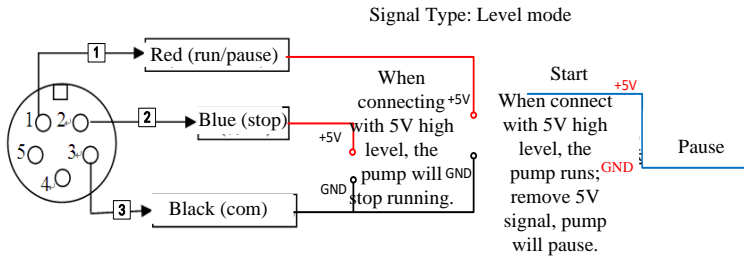

Fig. 16 External control level mode wiring diagram
- First click the MENU button in control method to enter the main menu, select the external control mode to turn on the level, and then click the ESC button to return to the operation interface. Connect the 5-core external control interface on the back of the pump body according to (Fig. 16).